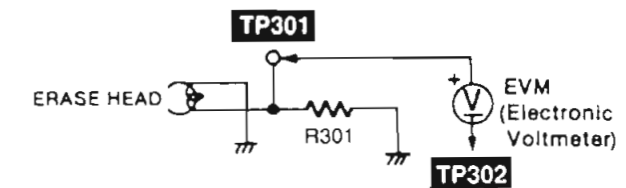

Fig. 6
- Check if the output at this time between the erase current confirmation point **TP301** and **TP302** (chassis) (the output on both edged of R301) is within the standard value. (Refer to Fig. 6.)